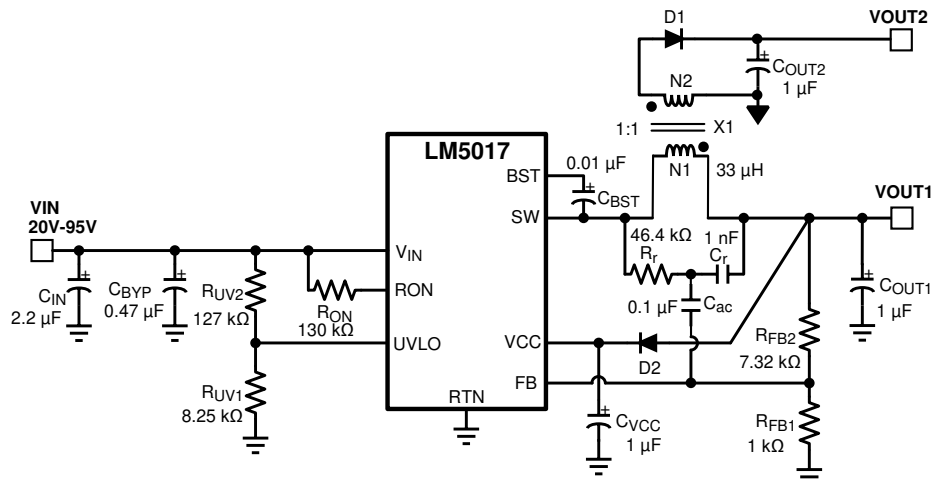

Figure 8-5. Typical Isolated Application Schematic
An isolated supply using the LM5017 is shown in Figure 8-5. Inductor (L) in a typical buck circuit is replaced with a coupled inductor (X1). A diode (D1) is used to rectify the voltage on a secondary output. The nominal voltage at the secondary output ( $V_{OUT2}$ ) is given by Equation 20.